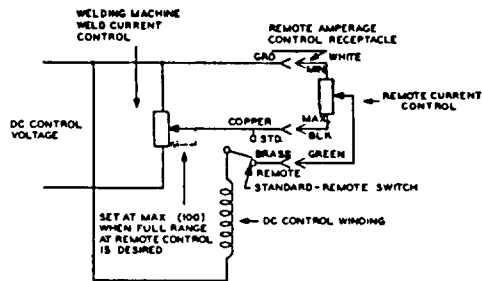

Figure 11- Remote Current Control
- e. **Crater Elimination:** The crater at the end of the weld deposit does not present a good appearance and may affect the strength of the joint. Reducing the current at the end of a weld, helps to minimize crater formation by gradually decreasing the size of the molten pool. Crater elimination can be accomplished by using a **Remote Foot Control RFC-3A**. Backing off slightly on the remote control's foot pedal at the end of the weld will decrease the current low enough to minimize crater formation. The remote control circuit is so arranged that the **Weld Current Control** on the welding machine will determine the maximum welding output. Current adjustment from the setting of the **Weld Current Control** on the welding machine, to minimum of the current range in use, will be obtained by the remote control. See Figure 11. If full range of control is desired, set the Weld Current Control on the welding machine to the maximum position.
- a. To place the welding machine in operation, place the **On-Off Power Switch** in the **ON** position. This will energize the machine. On machines ordered with Thermo-Shunt (optional equipment) the fan motor will not start to operate until an arc of approximately 100-150 amperes is drawn. All four (4) thermostats of the Thermo-Shunt kit are open under normal idling conditions, preventing the fan from running. When an arc of approximately 100-150 amperes is drawn, the heating of the Thermo-Shunt or rectifier will close one or more of the thermostats. The closing of one or more of the thermostats will energize the fan motor. All thermostats are self-resetting.